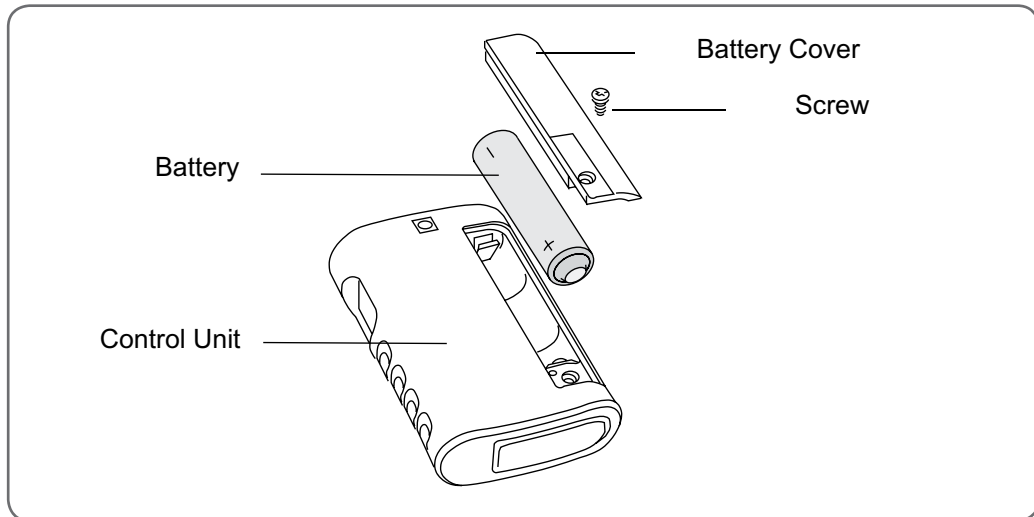

Figure 8-6: Replacing the Control Unit battery.
1. Remove the screw from the battery cover on the back of the Control Unit. See Figure 8-6. (The screw may be under a small label. If so, gently peel off one end of the label. Reapply the label after the battery is replaced.)